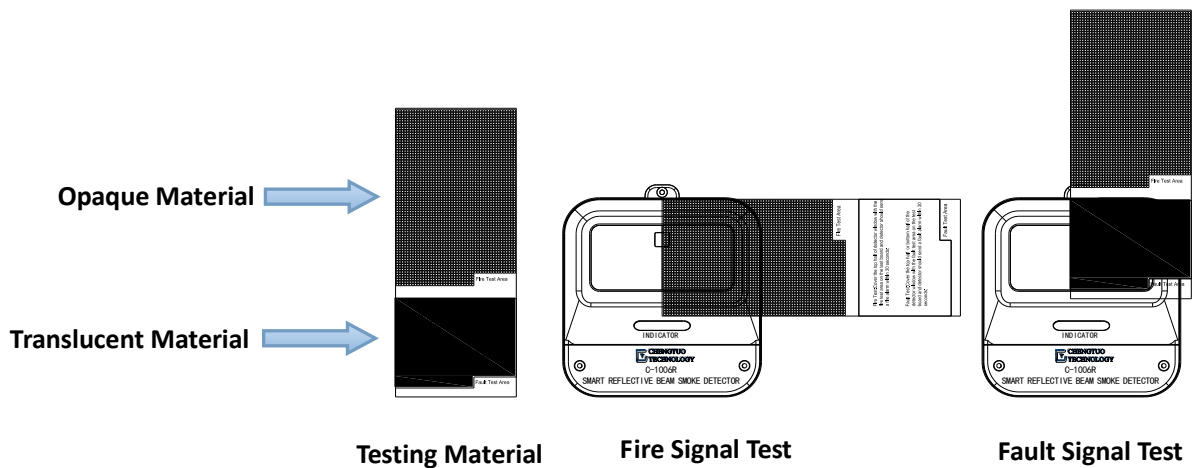

Figure 13 Testing Details
2. After the adjustment, cover the receiving window or emitting window with the translucent side of testing material until the detector alarms(no more than 30 seconds).When the detector alarms, the indicator is always be on, the detector sends an alarm message. Refer to Figure 13.
4. Cover the receiving window or emitting window with the opaque side of testing material until the detector general a fault signal(no more than 60 seconds). When the detector alarms, the indicator is always be on, the detector sends an alarm message. Refer to Figure 13.